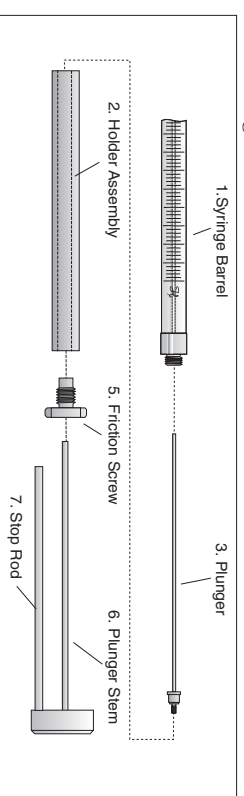

Figure 2
4. Push the new plunger stem (6) through the holder assembly, and retighten the friction screw (Figure 2).